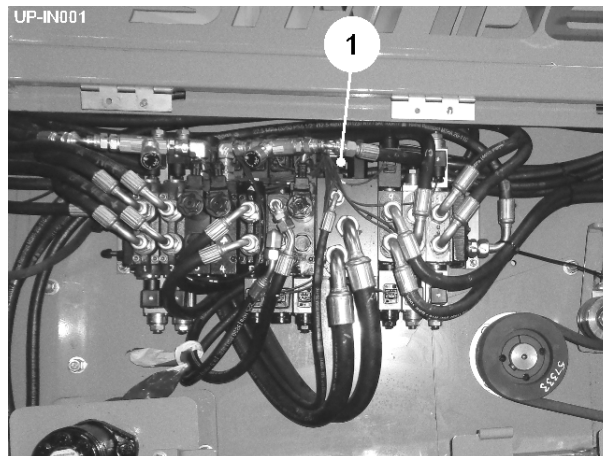

Fig 4
The hydraulic valve bank incorporates a knob (item 1, fig 4) which enables easy changing from closed to open centre and vice versa. For closed centre configuration tractors, turn the knob clockwise until fully closed. For open centre, turn the knob anticlockwise until fully out.